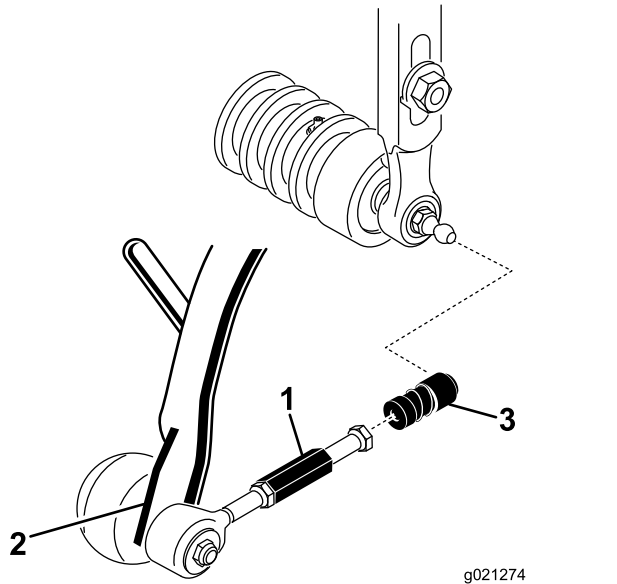

Figure 7
- Slide the sleeve back on each ball joint receiver and hook the receiver onto the cutting unit ball stud (Figure 7).